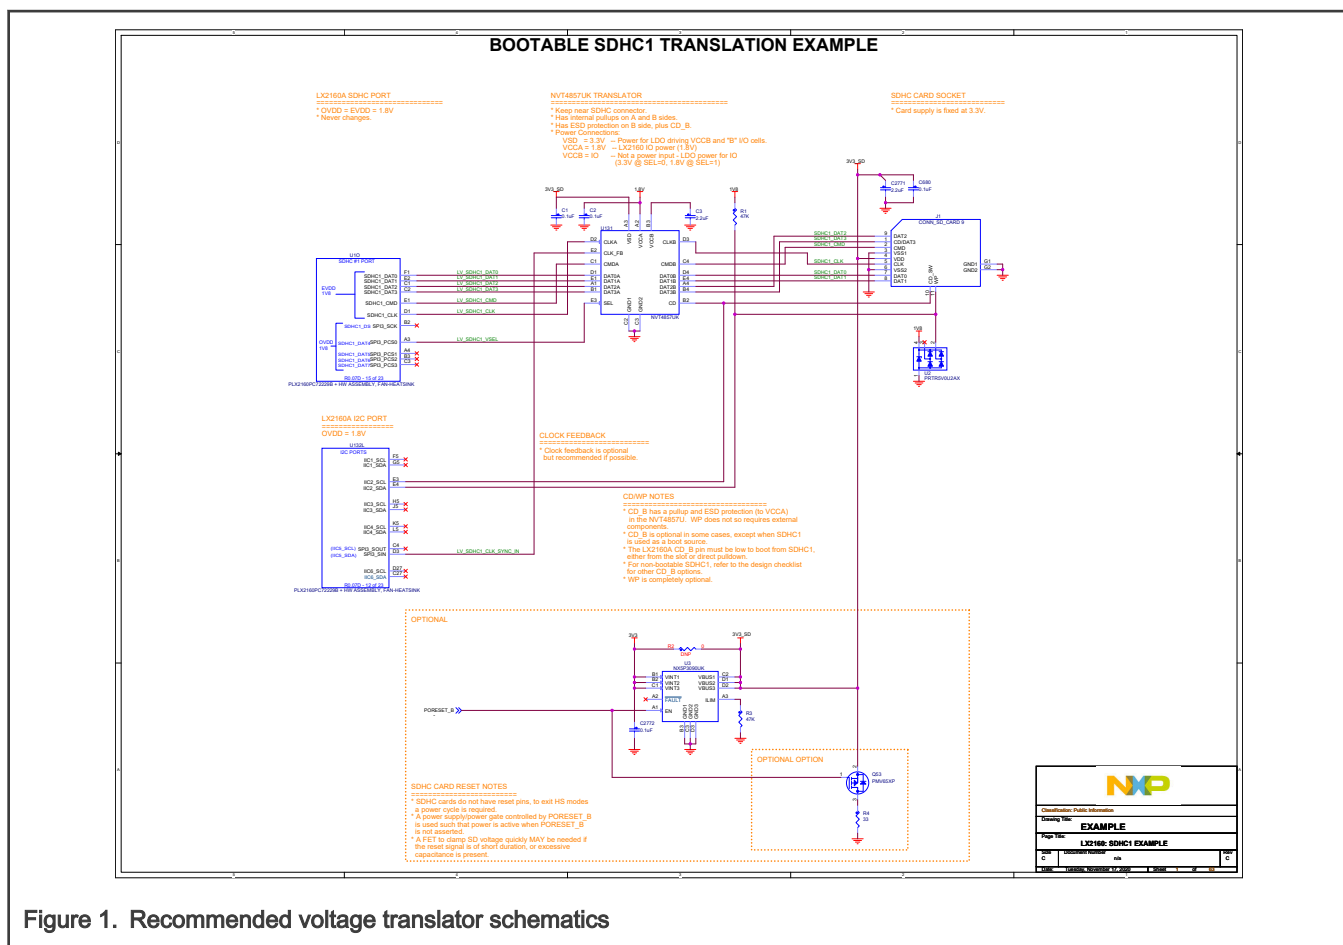
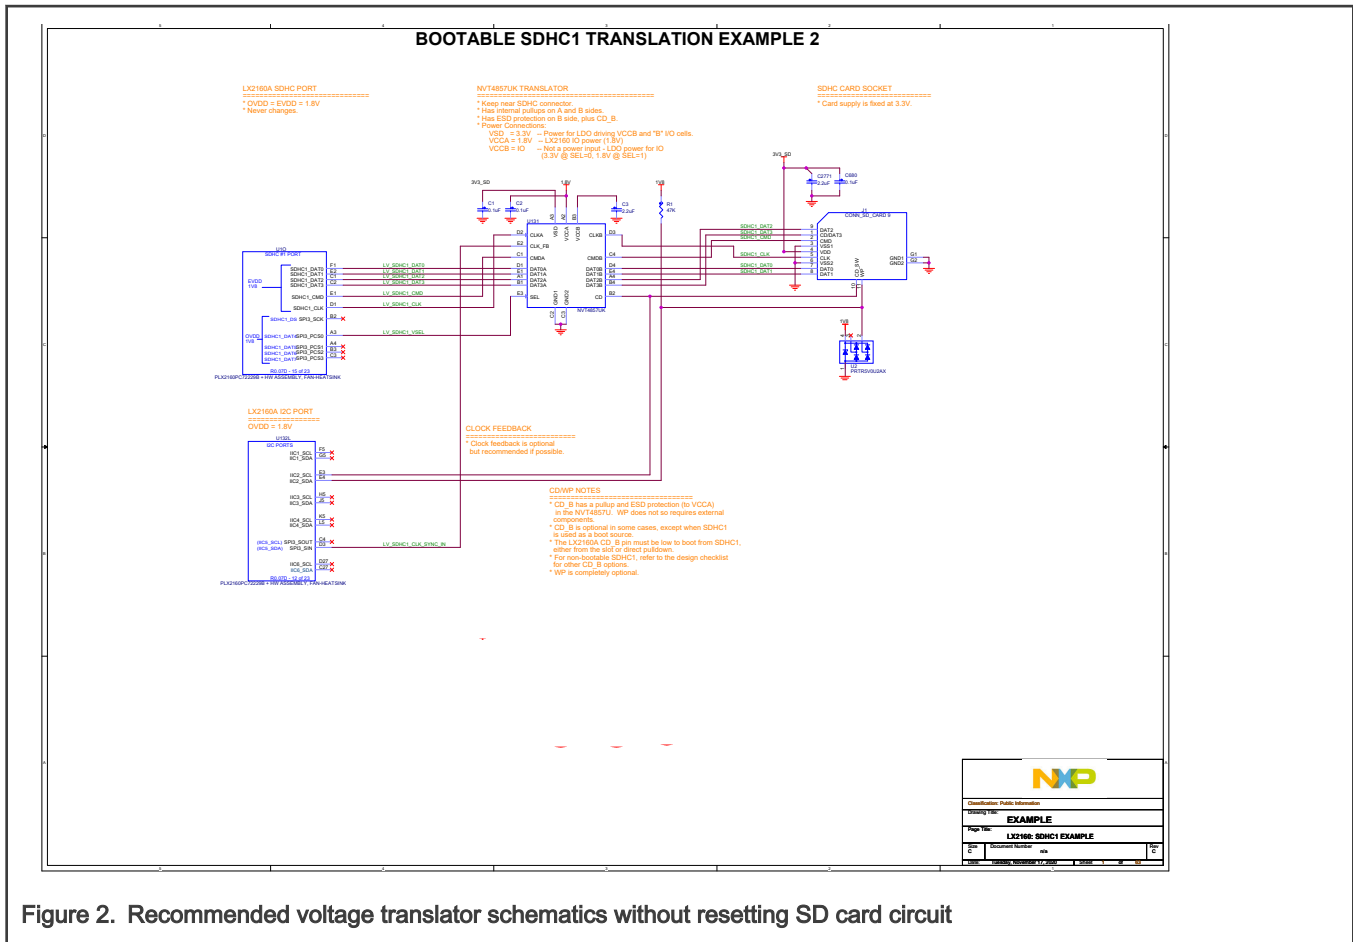

Figure 1. Recommended voltage translator schematics
Figure 2. Recommended voltage translator schematics without resetting SD card circuit
Several voltage translators on the market can be used for the eSDHC interface. NXP recommends to use NVT4857UK as it supports High Speed (HS) and UHS-I speeds. It supports up to 208 MHz clock rate. Figure 1 shows the recommended circuit when SDR speeds are needed.
The power-off design can be avoided if HS mode can meet system requirements. Figure 2 shows the recommended circuit when only HS speed is needed. In this case, no power-off SD card circuit is needed as the signaling voltage runs at 3.3 V.
As you can see from Figure 1 and Figure 2, the difference between these two designs is the power-off circuit. The design of this circuit should meet the SD specification requirement of keeping power level less than 0.5 V and more than 1 ms.